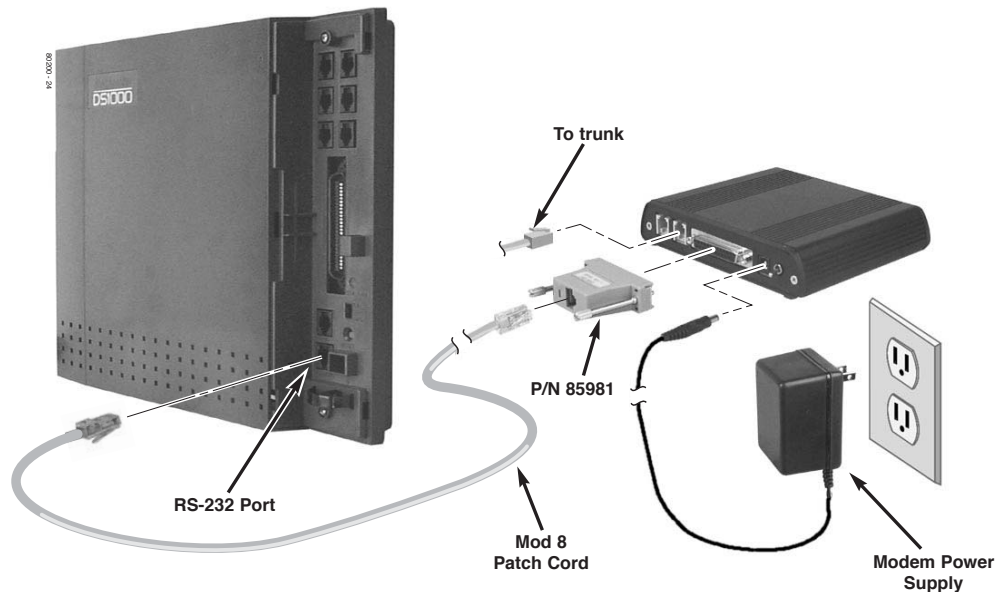

Figure 5-2: Connecting a Modem
**To connect a modem** (Figure 5-2):